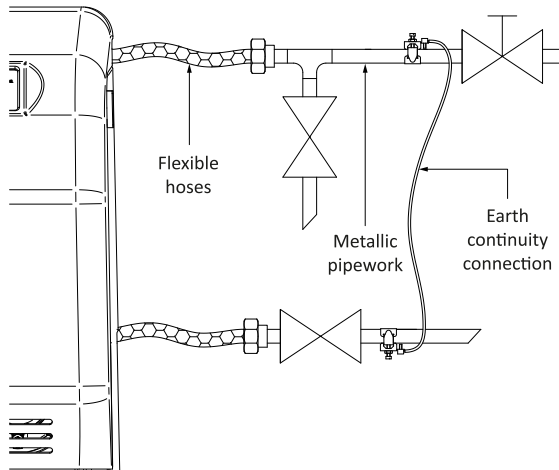

Fig. 14
- 7.15 **Adjacent pipes:** Adjacent suction and delivery pipes should be fitted with earthing clamps in accordance with current regulations (Fig. 14).